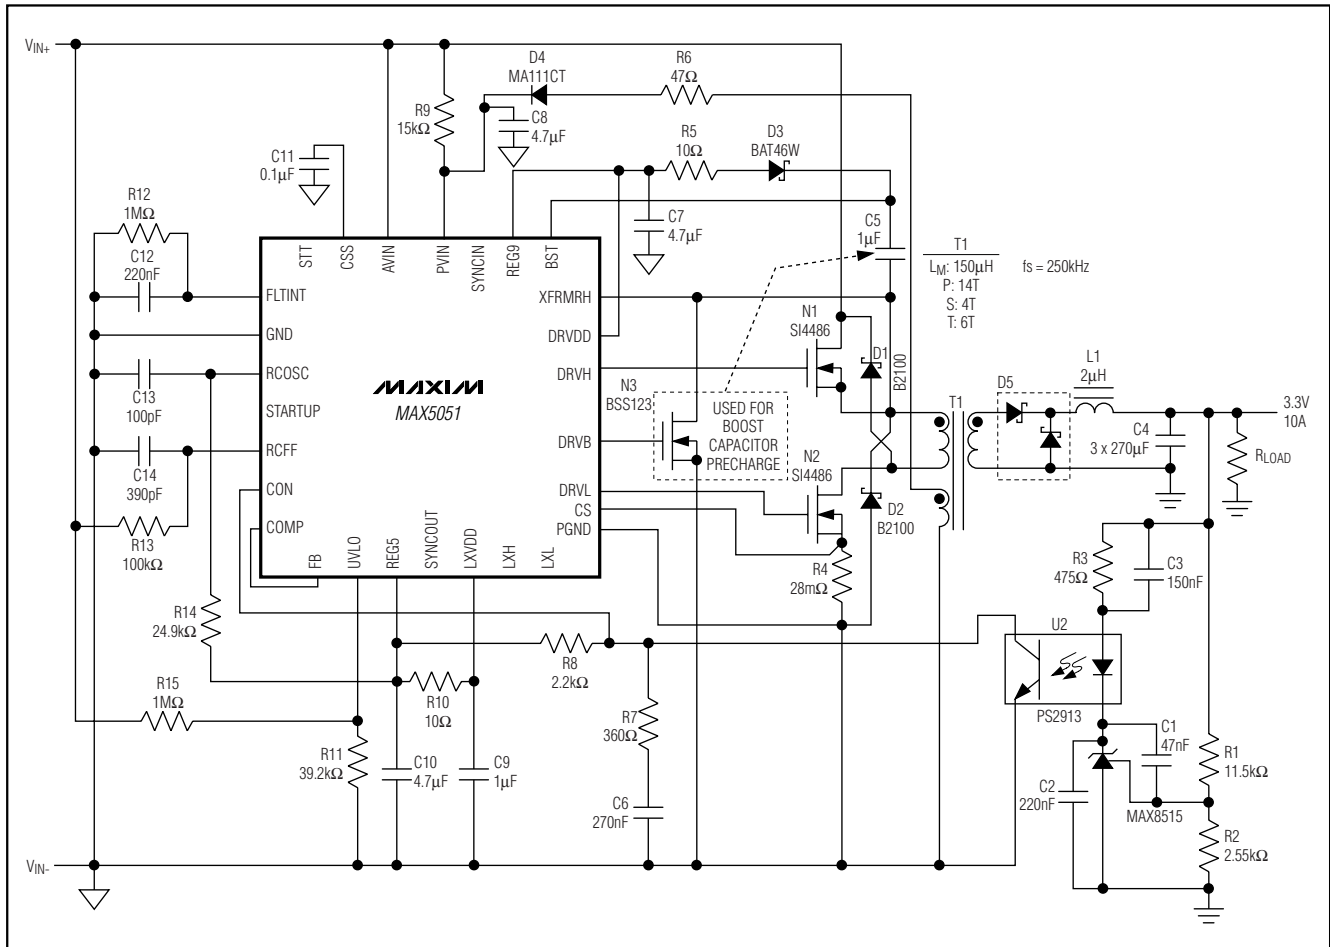

Figure 2. Typical Application Circuit
The two-switch power topology has the added benefit of recovering practically all magnetizing as well as the leakage energy stored in the parasitics of the isolation transformer. The lower clamped voltages on the primary power FETs allow for the use of low $R_{DS(ON)}$ devices. Figure 2 shows the schematic diagram of a 48V input 3.3V/10A output power supply built around the MAX5051.
If the charge stored on the boost capacitor is not adequately replenished then the gate-driver lockout for the high-side MOSFET is triggered, stopping the high side from switching. The low side continues switching, eventually recharging the capacitor, at which point the high side starts switching again. To prevent this behavior, use the boost capacitor's cycle-by-cycle charging circuit to prevent unwanted shutdowns of the high side (Figure 2). Connect the gate of a small high-voltage FET (with the same voltage rating or higher as the main FETs) to the DRV B output of the MAX5051. Connect the drain of this FET to XFRMRH, and connect the source to the primary ground. DRV B will briefly (300ns) turn this FET ON every cycle after the main PWM clock terminates. This allows the boost capacitor to be replenished under all conditions, even when switching stops completely. A suitable FET for this is BSS123 or equivalent (100V, 170mA rated). The boost-capacitor charge
The error amplifier in the MAX5051 has an uncommitted inverting input (FB) and output (COMP). Use this amplifier when secondary isolation is not required. COMP can then be directly connected to CON (the input of the PWM comparator). The noninverting input of the error amplifier is connected to the soft-start generator and is also available externally at CSS. A capacitor connected to CSS is slewed linearly during initial startup with the 70µA internal current source (see Figure 2). This provides a linearly increasing reference to the noninverting input of the error amplifier forcing the output voltage also to slew proportionally. This method of soft-start is superior to other methods because the loop is always
After coming out of standby and before initiating the soft-start, the MAX5051 turns on the low-side FET to charge up the boost capacitor. A voltage detector has been incorporated in the high-side driver that prevents the high-side switch from turning on with insufficient voltage. It is also used to indicate when the boost capacitor has been charged. Once the capacitor is charged, soft-start commences. If the duty cycle is low, the magnetizing energy in the transformer may be insufficient to keep the bootstrap capacitor charged. DRVb (see Figure 2 dotted lines) has been provided to drive a small external FET connected between XFRMRH and PGND, and is pulsed every cycle to keep the capacitor charged.